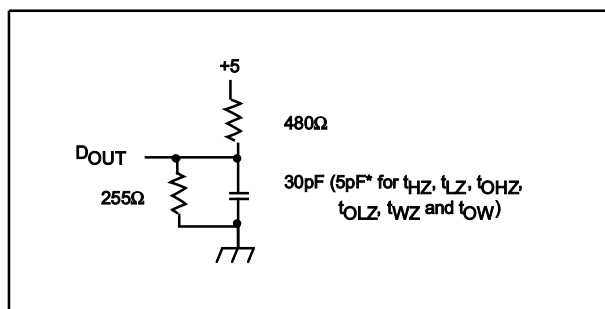

Figure 1. Output Load
- Transition is measured  $\pm 200mV$  from steady state voltage prior to change with specified loading in Figure 1. This parameter is sampled and not 100% tested.
- 12. Transition is measured  $\pm 200mV$  from steady state voltage prior to change with specified loading in Figure 1. This parameter is sampled and not 100% tested.
Output Load	See Figures 1 and 2